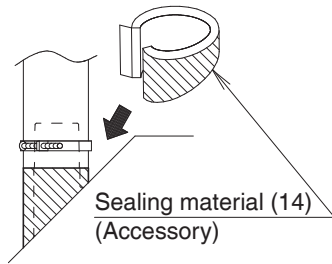
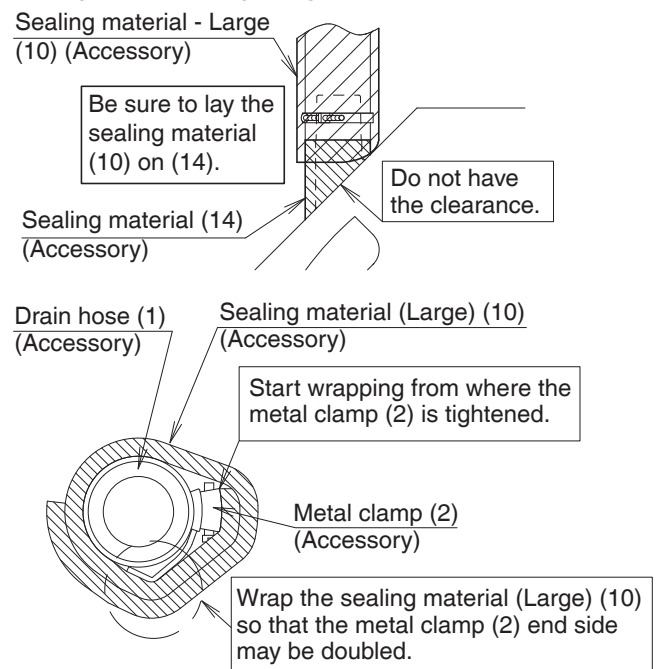

Fig. 20
Fig. 22
- After checking the drainage of water, refer to **Fig. 20** and attach the sealing material (14) to perform the thermal insulation of the drain socket.
After checking the drainage of water, refer to **Fig. 20** and attach the sealing material (14) to perform the thermal insulation of the drain socket.
(3) Sweating may occur and result in water leakage. Therefore, make sure to insulate the indoor drain piping and socket locations.
After drainage is checked, put the attached sealing material (14) referring to **Fig. 20**, and insulate the drain hose (1) and the metal clamp (2) with the attached sealing material (Large) (10) referring to **Fig. 22**.